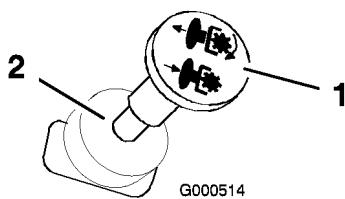

Figure 7
2. Disengage the blades by moving the blade control switch to Off (Figure 7).